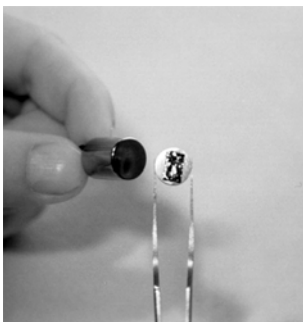

Figure 3-6: Putting the sample on the Sample Holder
- ❷ Put the prepared sample onto the magnetic end of the Sample Holder using a pair of tweezers (*Figure 3-6: Putting the sample on the Sample Holder*).